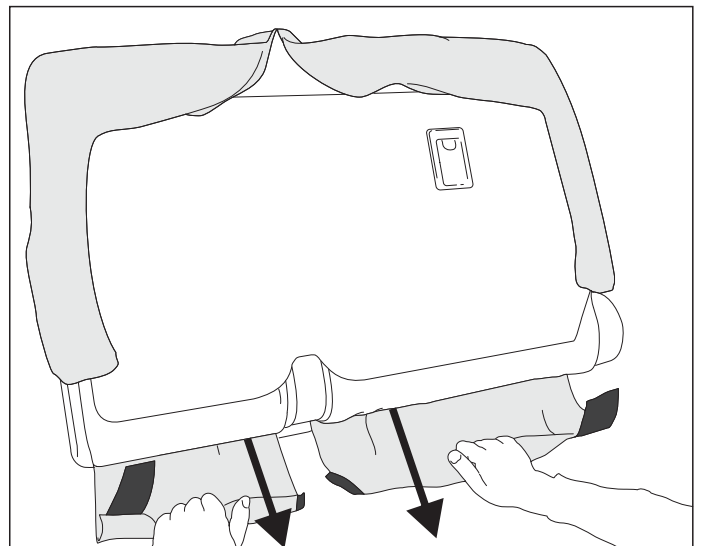

Fig. 5
5. Fold backrest down and from the rear of the seat pull middle part of the backrest cover all the way through ensuring a tight fit. (Fig. 5)